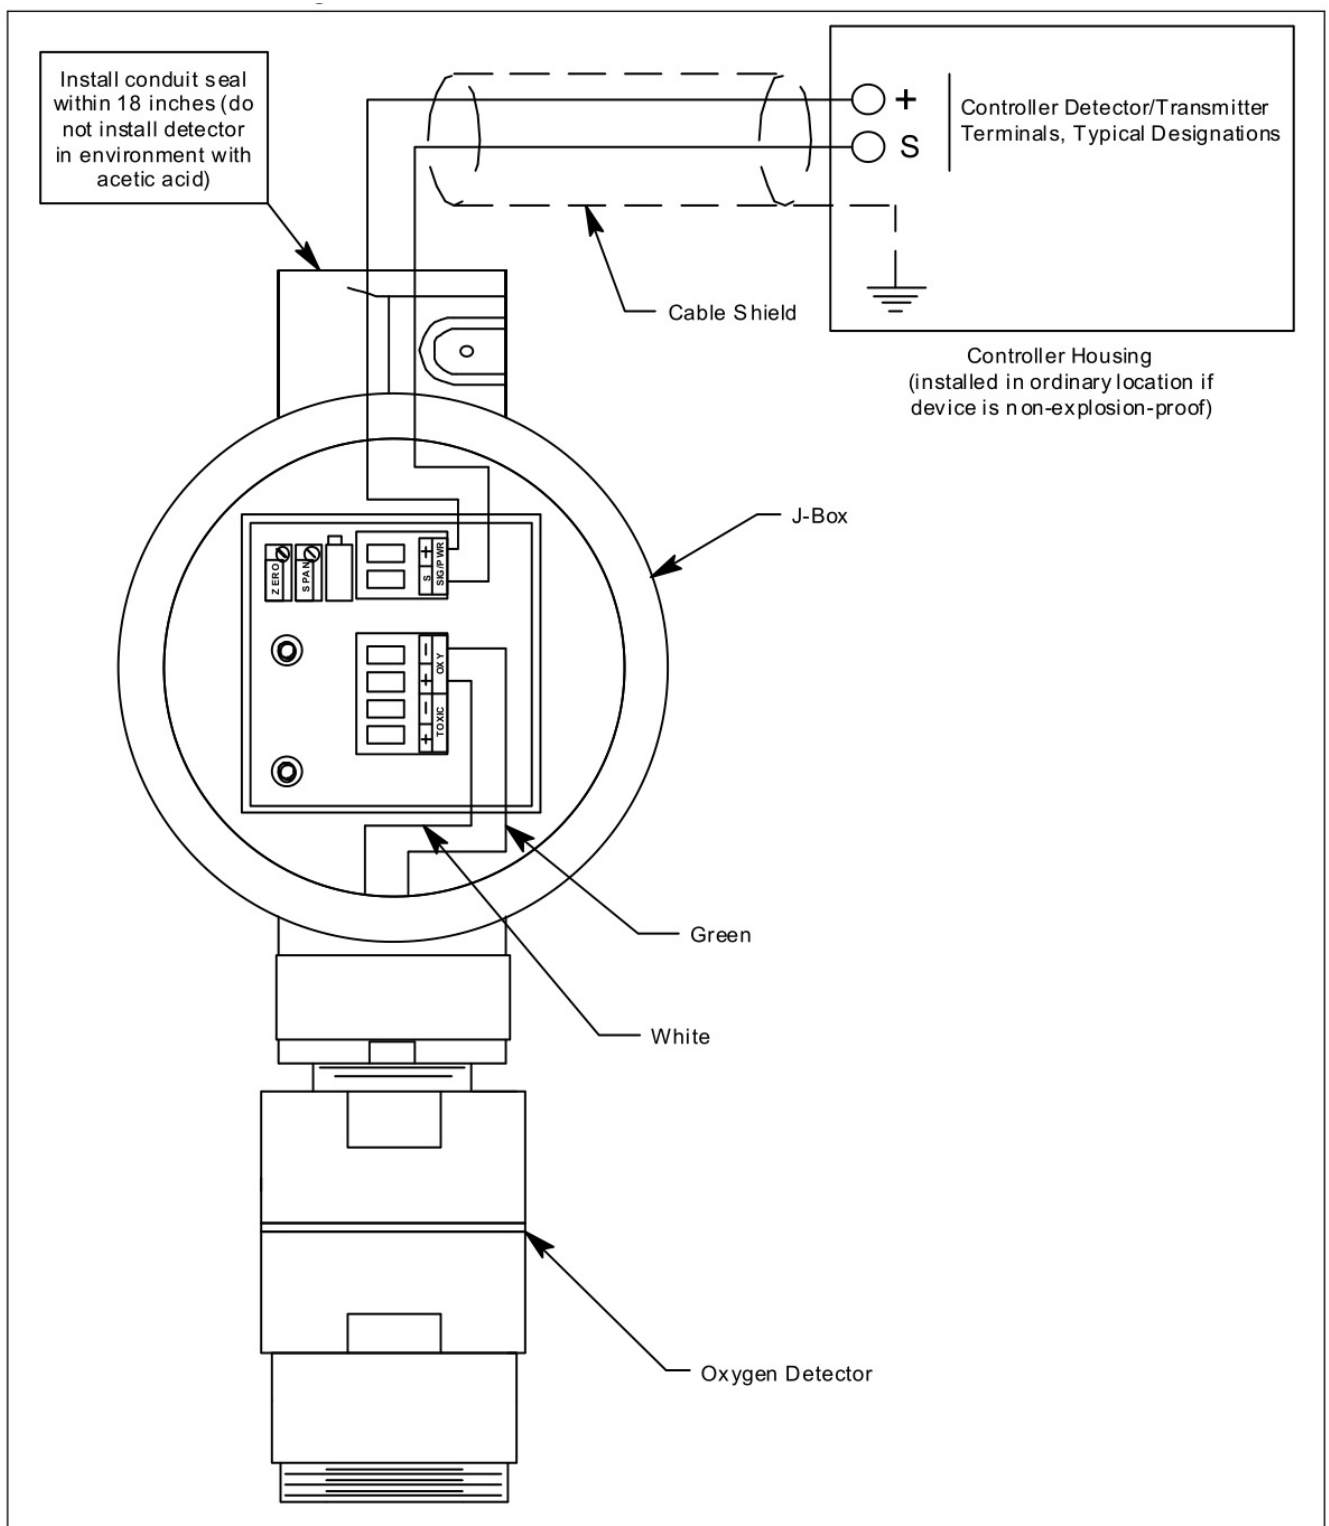

Figure 4: Wiring the Oxygen Transmitter to a Controller
4. The detector leads are factory wired. Verify that the detector leads are wired to the amplifier's detector terminal strip as shown in Figure 4.
7. Pull out the controller terminal strip, and connect the two wires to the terminal strip as follows (see Figure 4).
11. Connect the wires to the applicable detector/transmitter terminal strip at the controller as shown in Figure 4.
8. Connect the detector leads to the appropriate detector terminal strip terminals. Connect the white wire to the terminal labelled Oxy + and the green wire to the terminal labelled Oxy -. See Figure 4 on page 12 for the detector wiring connections to the amplifier.
8. Install the detector and controller terminals strips into their sockets on the new amplifier as shown in Figure 4 on page 12. If controller leads or detector leads were removed during this procedure, refer to Figure 4 on page 12 for the detector and amplifier connections.